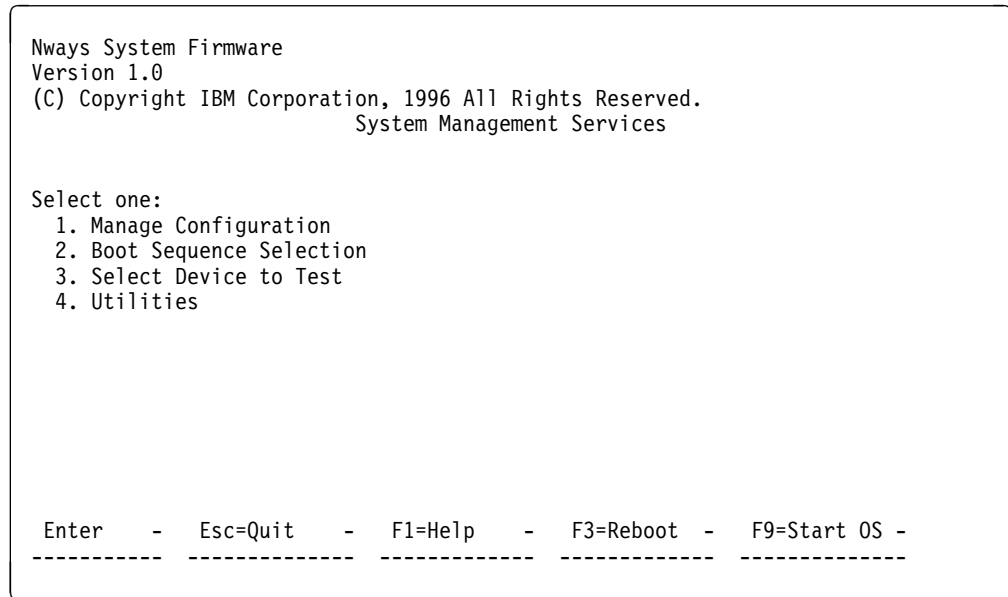

Figure 5-1. Main Menu Panel
- 7** The firmware menu is displayed. From the menu (as shown in Figure 5-1 on page 5-4), you can select from four services. The following sections explain these services and provide instructions for using the associated panels:
As seen in Figure 5-1, various function keys appear in the lower part of the panel. These keys are common among the firmware panels. On other panels, the function keys are stacked at the right of the panel. Use the F1 Help key to get descriptions for the function keys associated with the firmware.
- 1 Select **1. Manage Configuration** from the main menu as shown in Figure 5-1 on page 5-4.